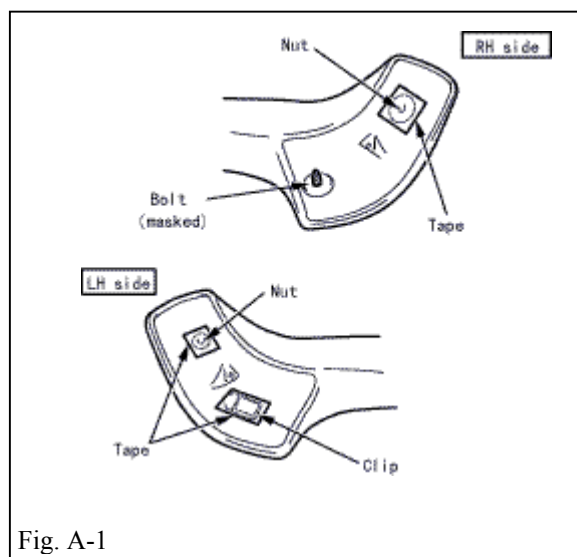

Fig. A-1
1. Apply masking tape to nut, bolt and clip (RH/LH). (Fig. A-1)